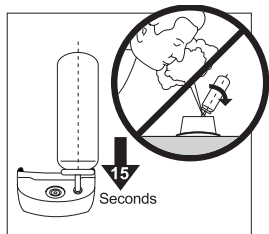

Fig. 1
2. First let the air out of the filling container by pressing down the filling opening (6) twice with a screwdriver.
3. Insert the spray nozzle from above into the filling opening (6) on the device.
4. To fill the device, press and hold the spray nozzle at the filling opening (6) for approx. 15 seconds (Fig. 1).